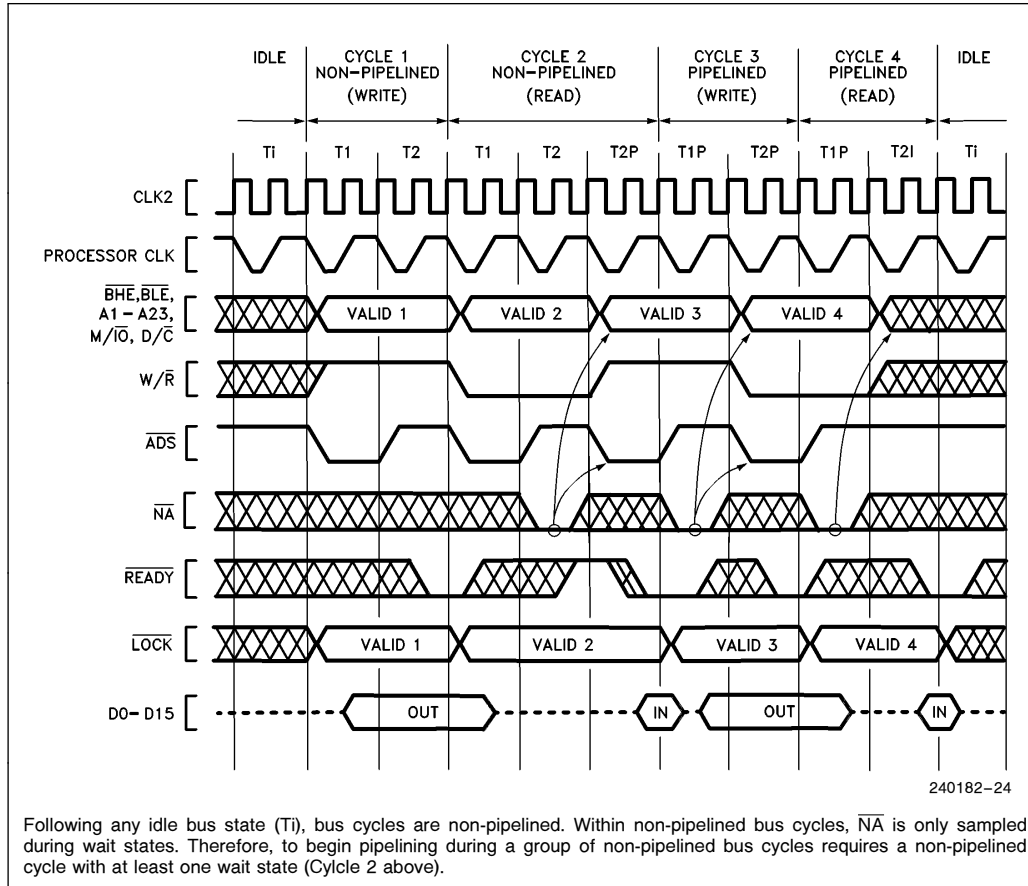
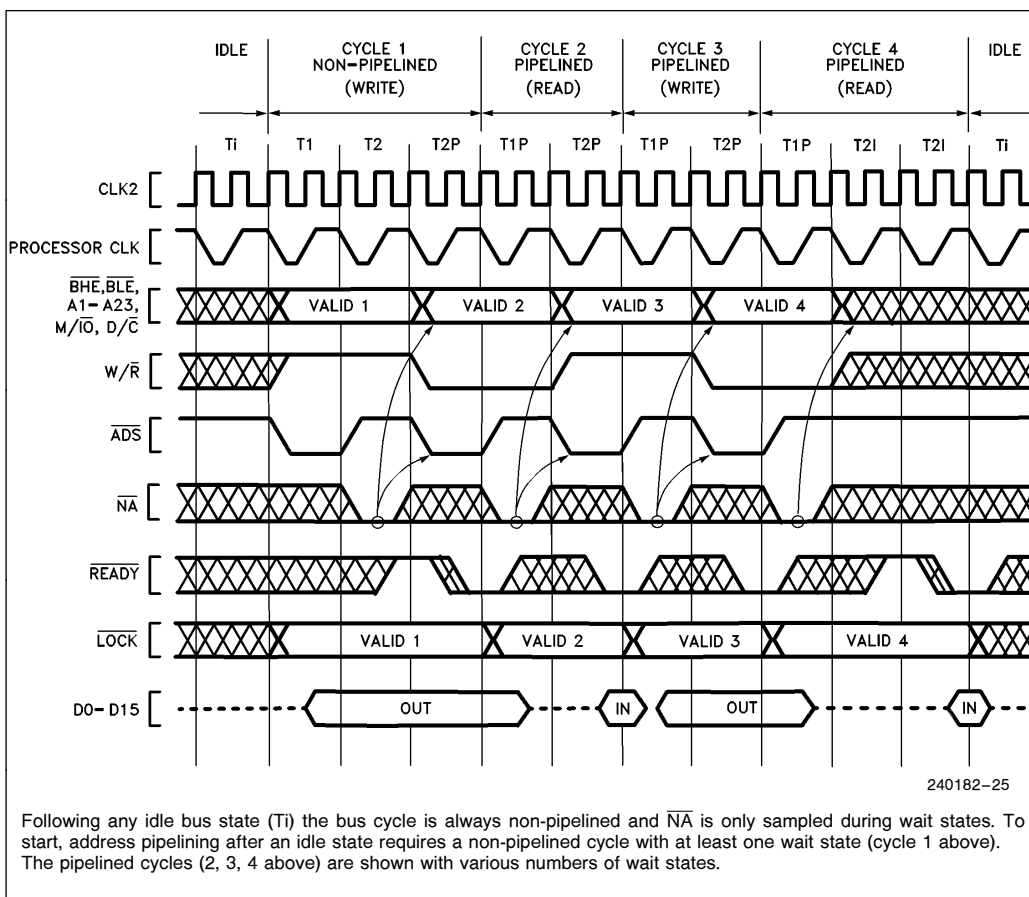
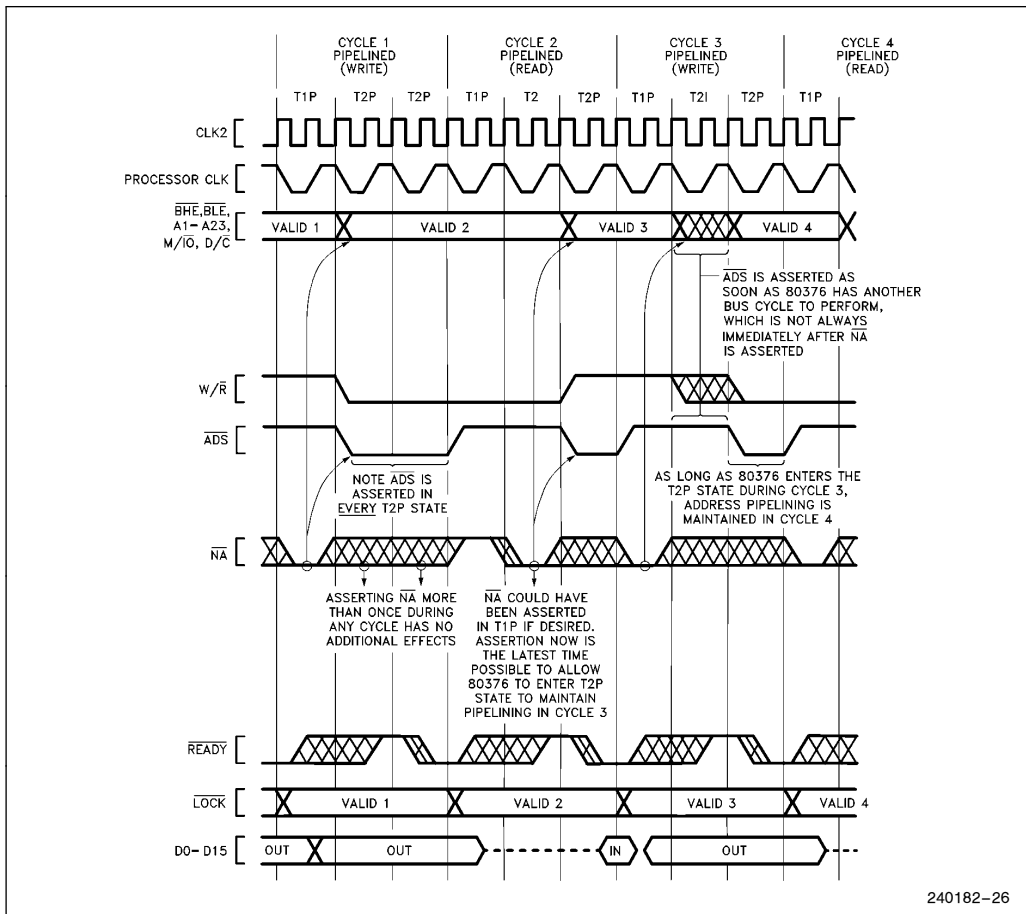

Figure 4.9. Transitioning to Pipelining during Burst of Bus Cycles
Figure 4.10. Fastest Transition to Pipelined Bus Cycle Following Idle Bus State
Figure 4.11. Details of Address Pipelining during Cycles with Wait States
Once a bus cycle is in progress and the current address has been valid for at least one entire bus state, the \overline{NA} input is sampled at the end of every phase one until the bus cycle is acknowledged. During non-pipelined bus cycles \overline{NA} is sampled at the end of phase one in every T2. An example is Cycle 2 in Figure 4.9, during which \overline{NA} is sampled at the end of phase one of every T2 (it was asserted once during the first T2 and has no further effect during that bus cycle).
1. The next address and status may appear as early as the bus state after \overline{NA} was sampled active (see Figures 4.9 or 4.10). In that case, state T2P is entered immediately. However, when there is not an internal bus request already pending, the next address and status will not be available immediately after \overline{NA} is asserted and T2I is entered instead of T2P (see Figure 4.11 Cycle 3). Provided the current bus cycle isn't yet acknow-
2. Any address and status which are validated by a pulse on the 80376 \overline{ADS} output will remain stable on the address pins for at least two processor clock periods. The 80376 cannot produce a new address and status more frequently than every two processor clock periods (see Figures 4.9, 4.10 and 4.11).
3. Only the address and bus cycle definition of the very next bus cycle is available. The pipelining capability cannot look further than one bus cycle ahead (see Figure 4.11, Cycle 1).
The transition to pipelined address is shown functionally by Figure 4.10, Cycle 1. Note that Cycle 1 is used to transition into pipelined address timing for the subsequent Cycles 2, 3 and 4, which are pipelined. The NA input is asserted at the appropriate time to select address pipelining for Cycles 2, 3 and 4.
Sampling begins in T2 during Cycle 1 in Figure 4.10. Once \overline{NA} is sampled active during the current cycle, the 80376 is free to drive a new address and bus cycle definition on the bus as early as the next bus state. In Figure 4.10, Cycle 1 for example, the next address and status is driven during state T2P. Thus Cycle 1 makes the transition to pipelined timing, since it begins with T1 but ends with T2P. Because the address for Cycle 2 is available before Cycle 2 begins, Cycle 2 is called a pipelined bus cycle, and it begins with T1P. Cycle 2 begins as soon as \overline{READY} asserted terminates Cycle 1.
Examples of transition bus cycles are Figure 4.10, Cycle 1 and Figure 4.9, Cycle 2. Figure 4.10 shows transition during the very first cycle after an idle bus state, which is the fastest possible transition into address pipelining. Figure 4.9, Cycle 2 shows a transition cycle occurring during a burst of bus cycles. In any case, a transition cycle is the same whenever it occurs: it consists at least of T1, T2 (\overline{NA} is asserted at that time), and T2P (provided the 80376 has an internal bus request already pending, which it almost always has). T2P states are repeated if wait states are added to the cycle.
Note that only three states (T1, T2 and T2P) are required in a bus cycle performing a **transition** from non-pipelined into pipelined timing, for example Figure 4.10, Cycle 1. Figure 4.10, Cycles 2, 3 and 4 show that pipelining can be maintained with two-state bus cycles consisting only of T1P and T2P.
Once a pipelined bus cycle is in progress, pipelined timing is maintained for the next cycle by asserting \overline{NA} and detecting that the 80376 enters T2P during the current bus cycle. The current bus cycle must end in state T2P for pipelining to be maintained in the next cycle. T2P is identified by the assertion of \overline{ADS} . Figures 4.9 and 4.10 however, each show